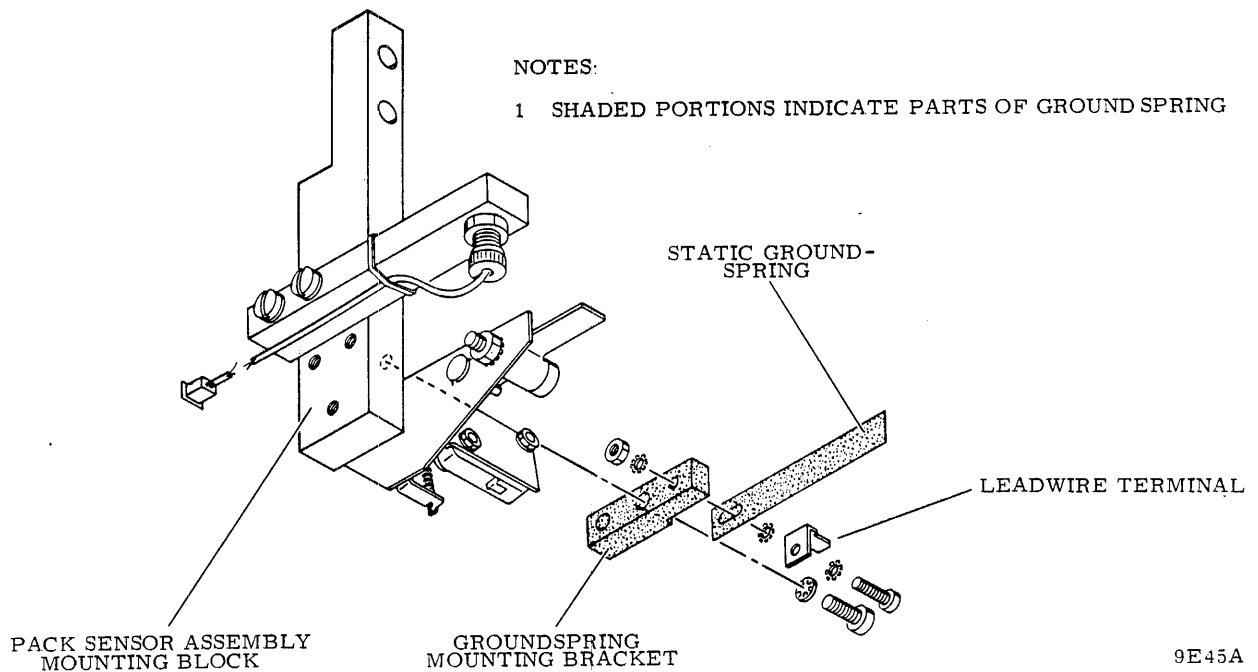
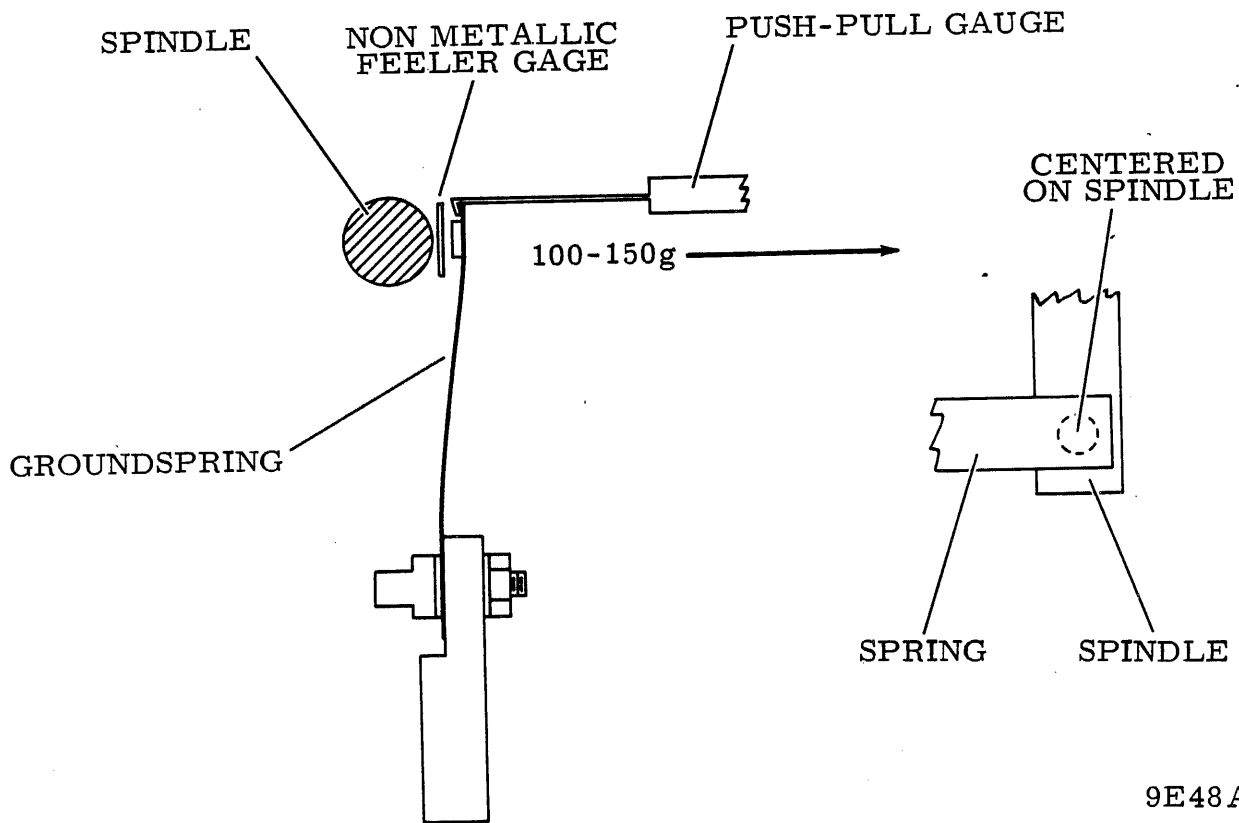

Figure 6-34. Static Groundspring Replacement (S/C 08 and Below)
Figure 6-36. Static Groundspring Adjustment
4. Refer to figure 6-34 and remove static groundspring leadwire from terminal on groundspring.
4. Refer to figure 6-34 and check that static groundspring is approximately centered vertically and on lockshaft (refer to figure 6-36). If spring is not centered, loosen screw securing spring to its mounting bracket, center spring as required then tighten screw.